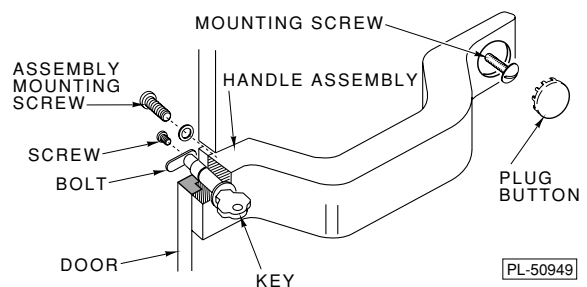

Fig. 1
2. Remove the two mounting screws and the handle assembly (Fig. 1).